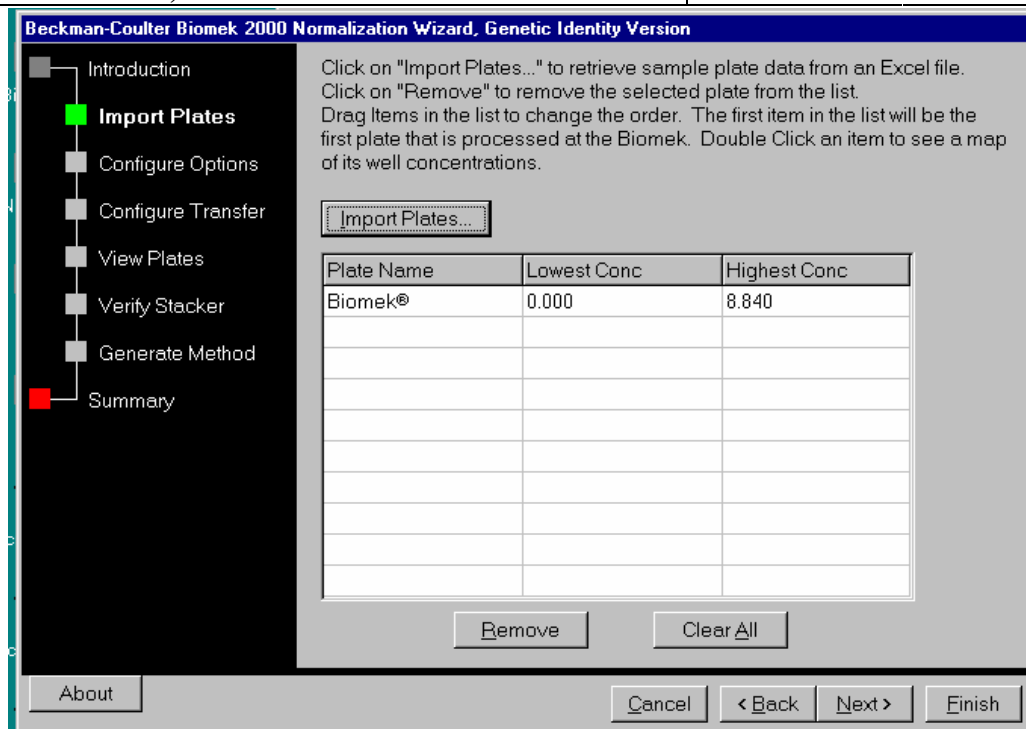

Figure 6. Importing plates into the Normalization Wizard.
- 5.5.2 The next dialog box to appear will be the Import Plates screen (Figure 6). Click on the Import Plates button and select the AluQuant® v3.0 file that contains the quantitation data for the samples that will be set up for STR amplification (eg 030204sag). The Import Plates box will have “BioMek®” listed under the Plate Name, the AluQuant® run filename will not be displayed. The lowest and the highest sample concentrations present in the opened file will be shown; select “Next” to proceed. NOTE: if a sample has a concentration greater than 17.0 ng/μL, that sample should be excluded from the process and the examiner notified that the sample must be manually prepared for amplification.